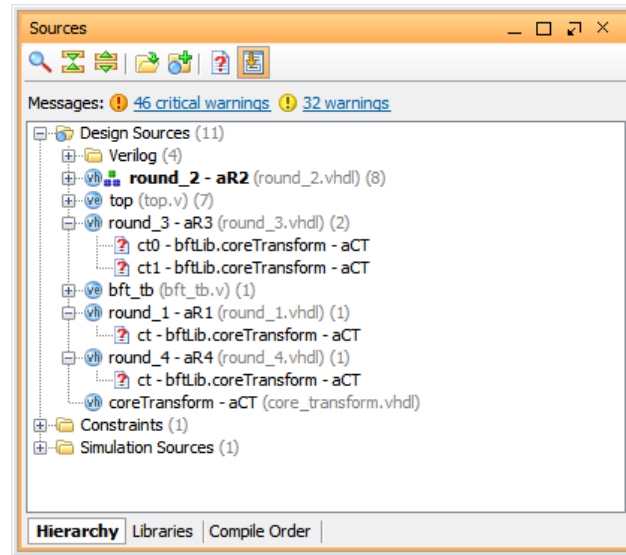

Figure 8: Viewing the Hierarchy
2. Examine the Sources view as shown in Figure 8.
The Hierarchy tab of the Sources view is displayed by default. The Design Sources folder currently lists `round_2` as the top module of the design, as indicated by the hierarchy icon. The PlanAhead tool will automatically determine the top module; however, at this time many of the source files in the project are not properly defined, preventing this feature from being successful. The `bft.vhdl` file references entities from the `bftLib`, however several VHDL files have incorrect library names which prevent the entities from being found as shown by the missing file icon in Figure 8. You need to correct the Library names in order for the design to compile and display the correct hierarchy.